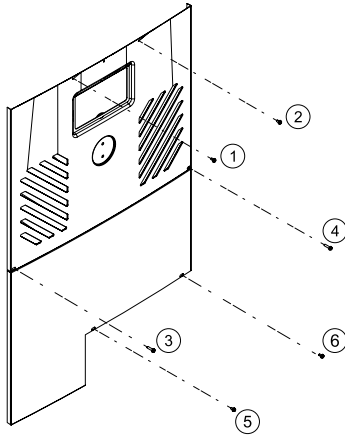

Figure 62. Sheet Metal Screws to Remove Control Panel
If service access to the heater is required, it is accomplished by removing the control cover panel and service access panel (Figure 62) to provide a wide access to get to (1) compressor, (2) heat exchanger, (3) thermal expansion valve (TXV), (4) reversing valve/solenoid valve (if equipped), (5) flow switch (if equipped), and (6) sensors (water, ambient and coil). To gain access, follow the steps below:
2. Remove the heater's front control cover panel by unscrewing the six (6) screws using a 1/4" hex head screwdriver. See Figure 62.